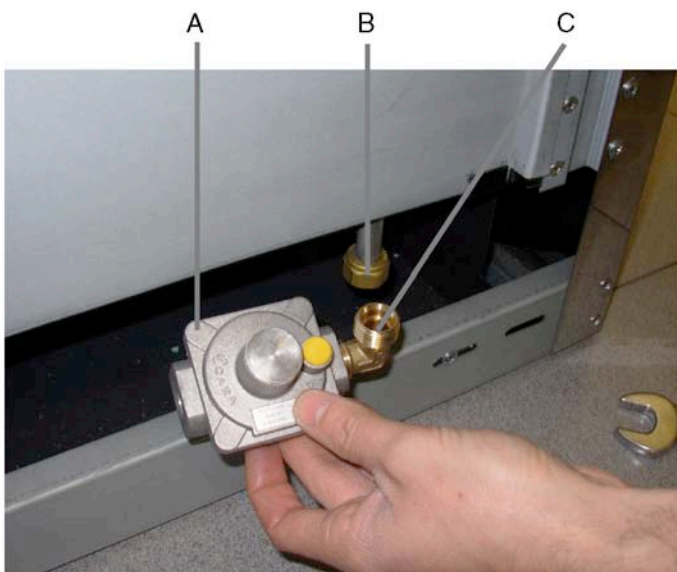
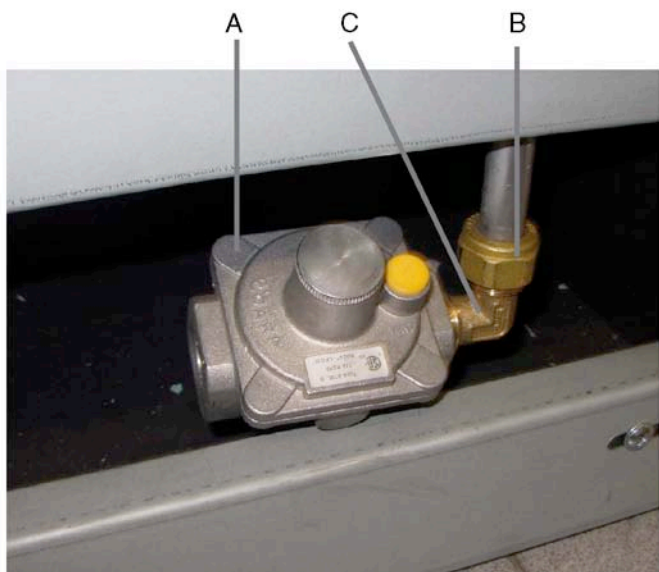

Fig.2a
Fig.2b
- As show in **Figure 2a**, unscrew B part from C part. Screw B part into A part (**Fig. 2a**). Please use a proper gasket, for this connection. As show in **Figure 2b**, screw A+B part into part C.